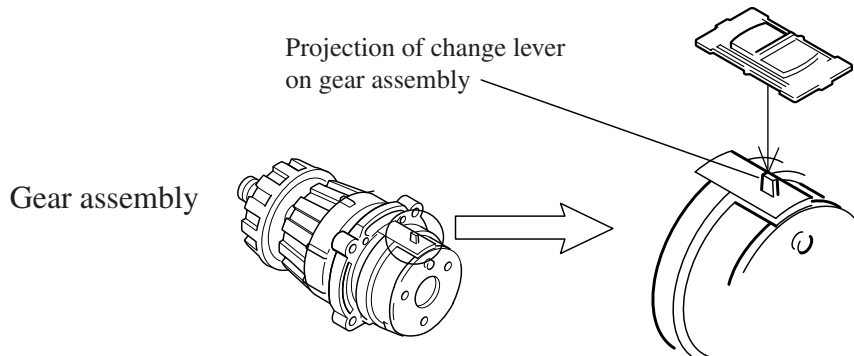

Fig. 5
- 2) Being careful that compression spring 4 may not comes out , install speed change lever assembly on the projection of change lever as shown in Fig. 5.